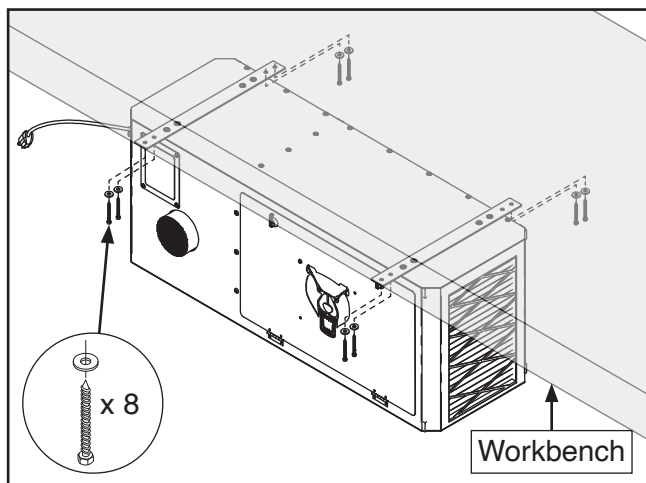

Figure 25. Securing machine to underside of workbench (workbench greyed out for clarity).
4. With help from an assistant, lift machine and secure to workbench with (8) $\frac{5}{16}$ " x 2" lag bolts and $\frac{5}{16}$ " flat washers, as shown in **Figure 25**.